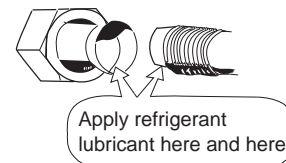

Fig. 12
- b) Be sure to apply refrigerant lubricant to the matching surfaces of the flare and union before connecting them together. This is effective for reducing gas leaks. (Fig. 12)